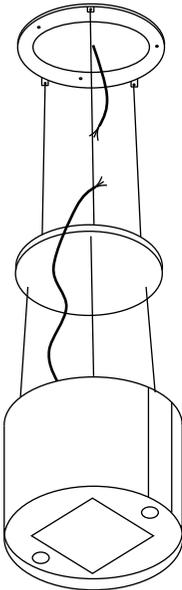

Fig 14
12. Feed cable through ceiling cover and connect (Fig 14).